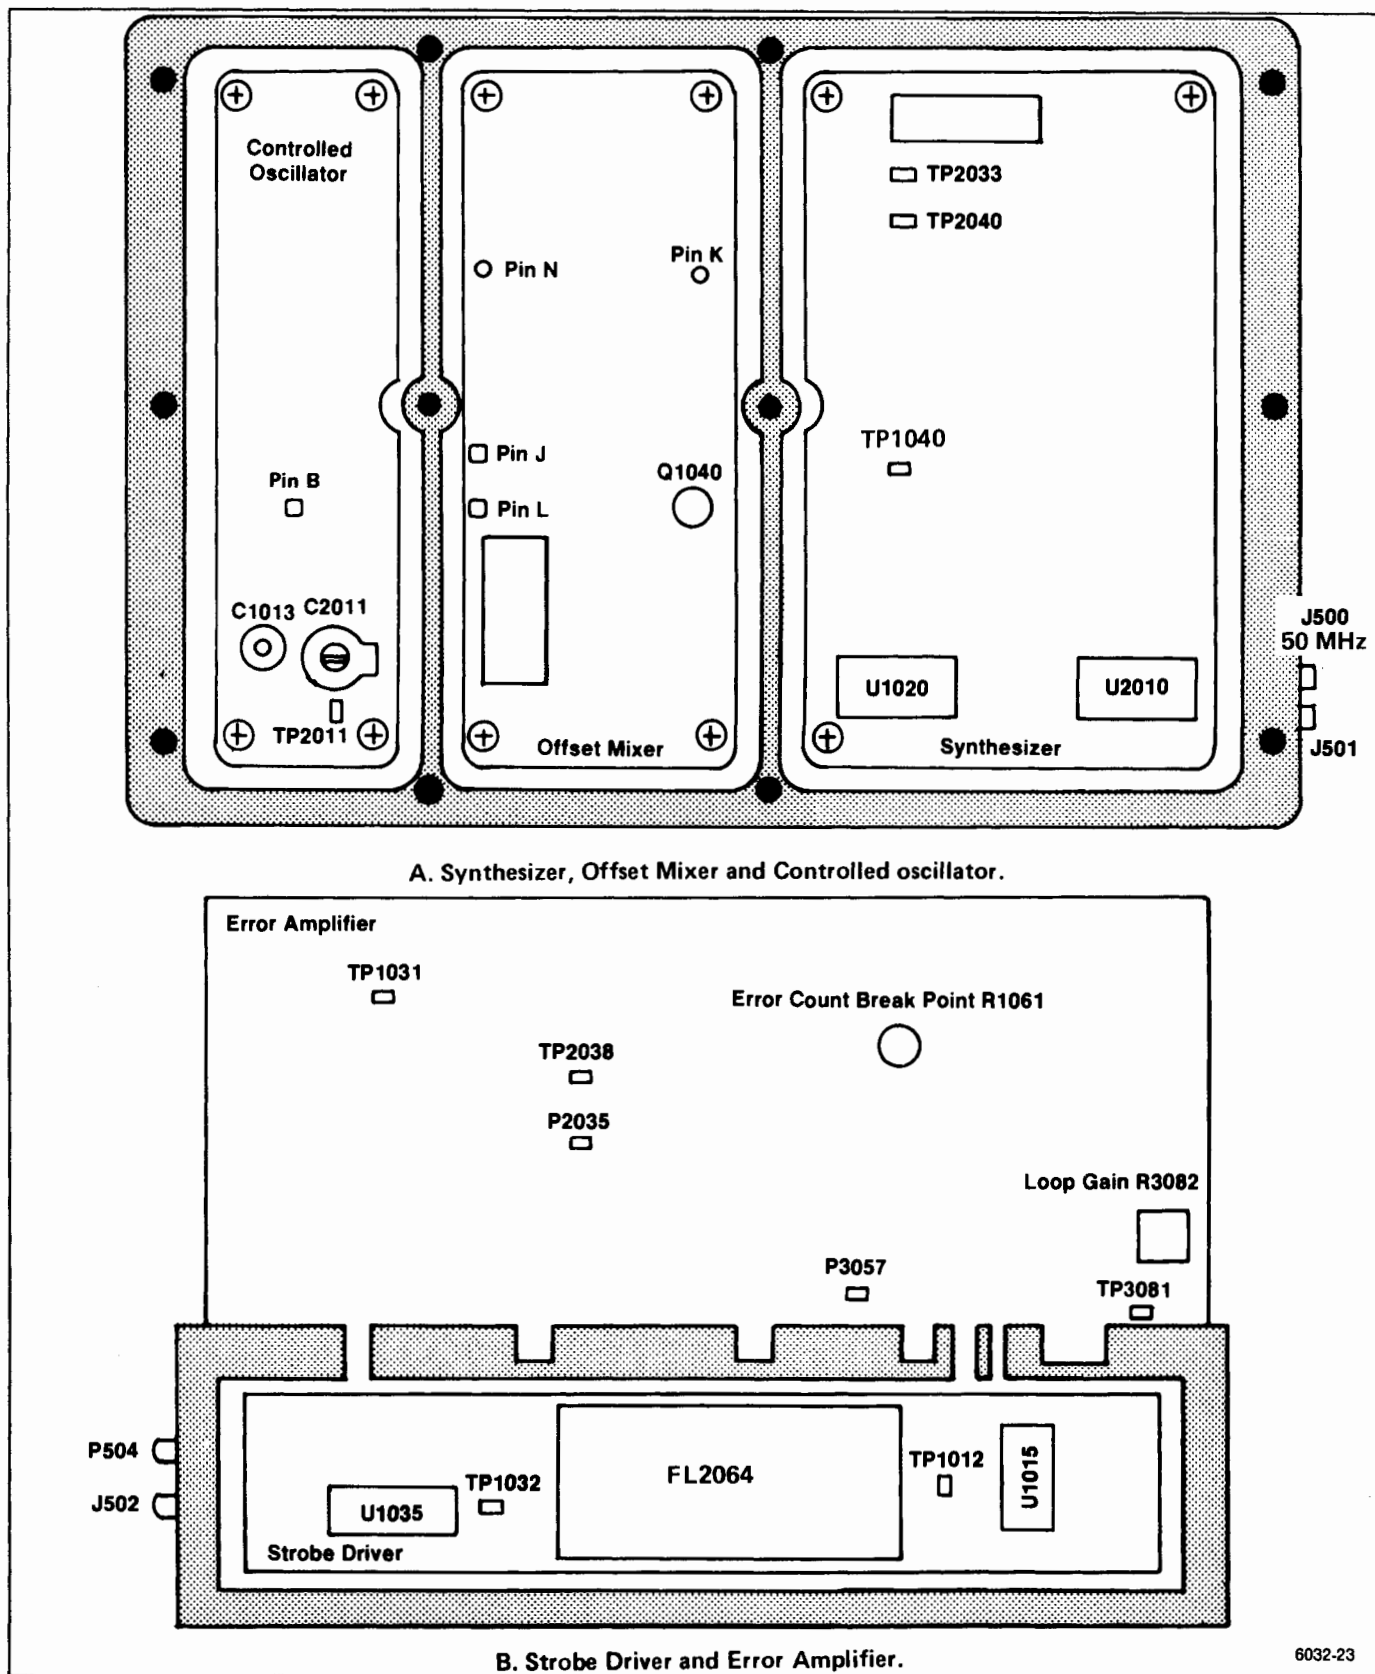

Figure 5-27. Phase Lock assembly adjustment and test point locations.
(1) Connect the Direct Input of the frequency counter to pin N (Figure 5-27) and set the counter controls for a count. Note the frequency.
(2) Connect the counter to pin K and note the frequency.
(3) Connect the counter to the collector of Q1040 and note the frequency. Frequency should equal the difference between pins N and K (e.g.,  $25.080 - 25.000 = 80$  kHz). Disconnect the counter probe from the collector of Q1040. (4) Connect a test oscilloscope probe to the collector of Q1040 and check for a signal with a frequency between 30 MHz and 94 MHz, 50% duty cycle, and an amplitude of approximately 5 V peak-to-peak.